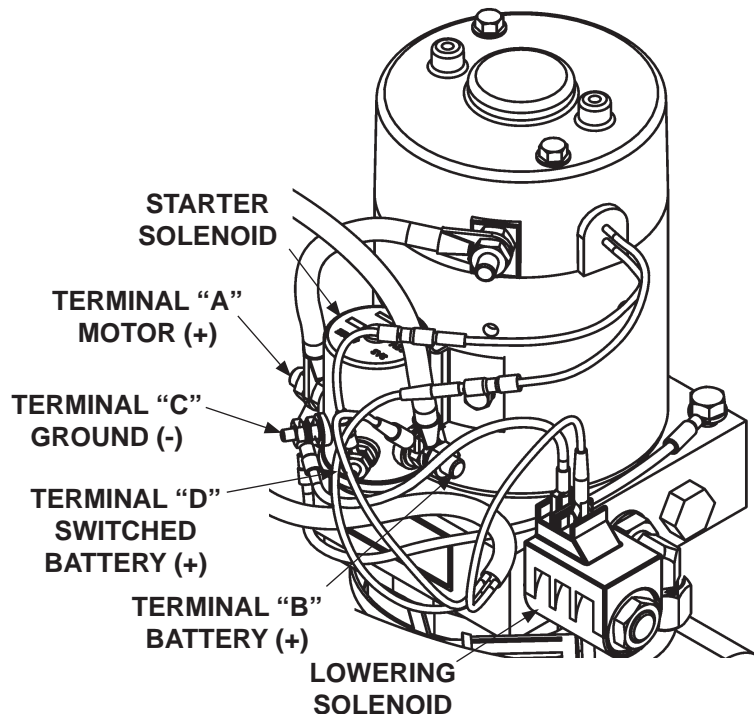

FIG. 65-1
1. Use voltmeter to verify power is being supplied to solenoid terminal "B" (FIG. 65-1). Recharge the battery if there is less than 12.6 volts.
3. Touch a jumper wire to terminals "B" & "D" (FIG. 65-1). If motor runs, check switch, switch connections, and white wire. Check and correct wiring connections or replace the switch.
4. Touch heavy jumper cables to terminals "A" & "B" (FIG. 65-1).